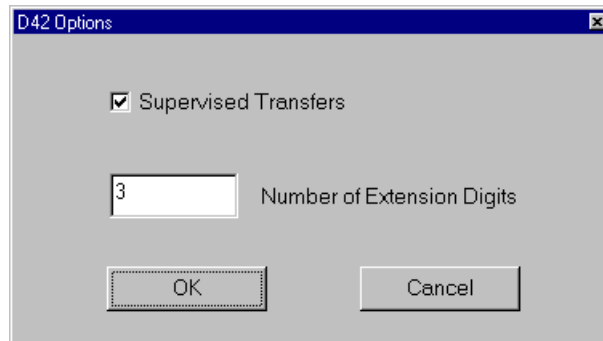

Figure 20. D42 Options Window
4. From the **Options** menu, choose **Properties**. The *D42 Options* window is displayed, as shown in *Figure 20*.